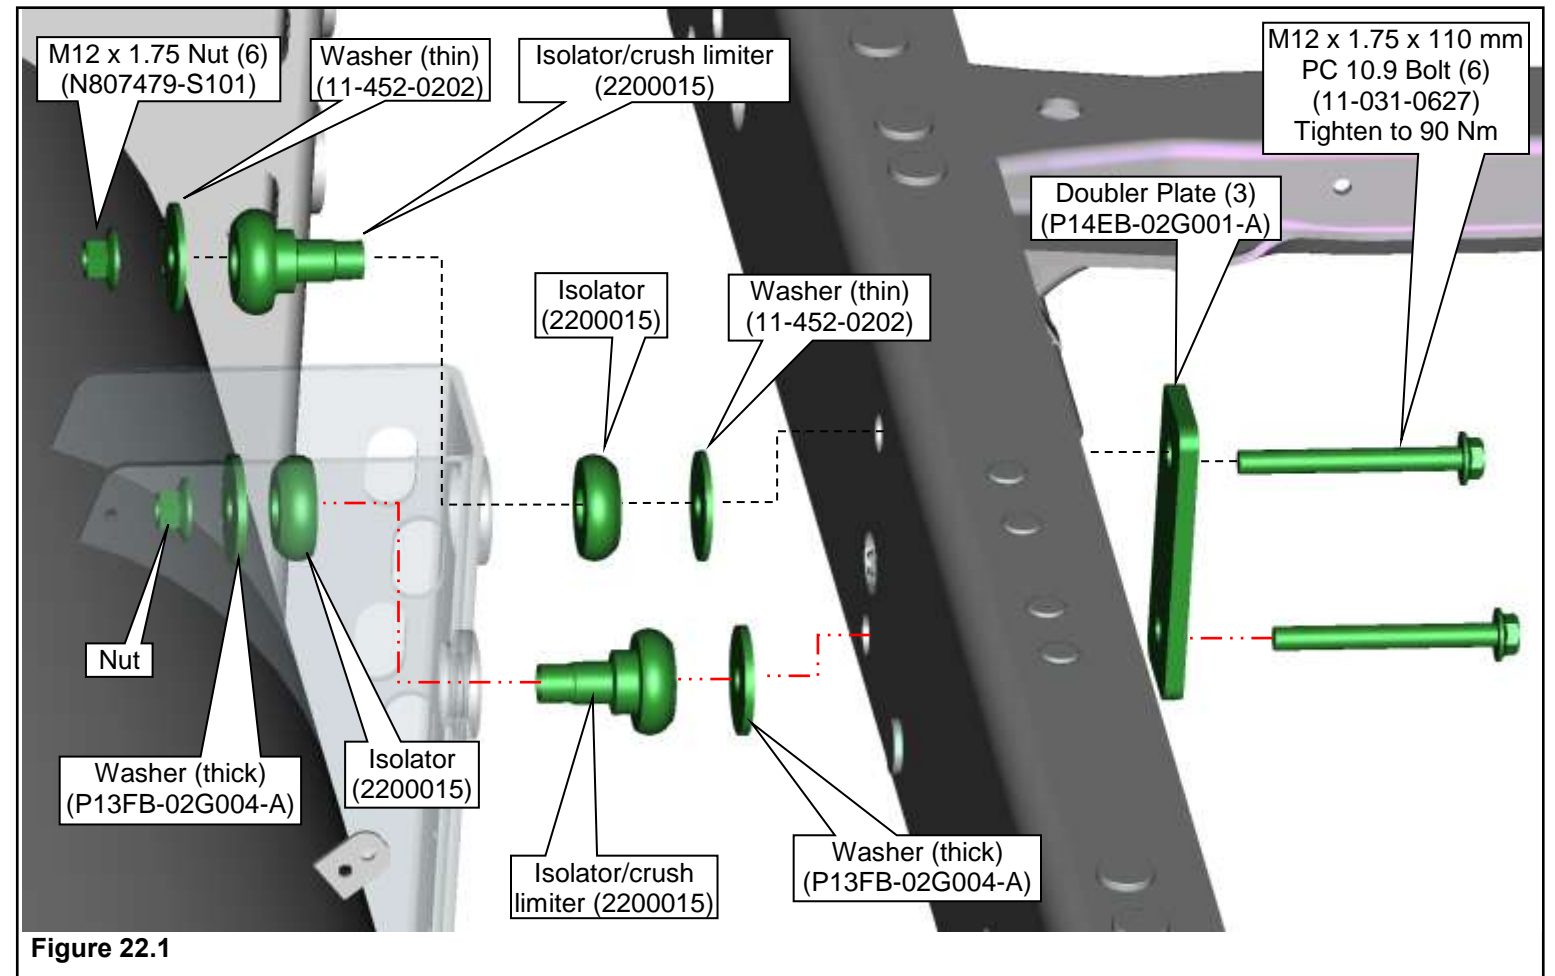
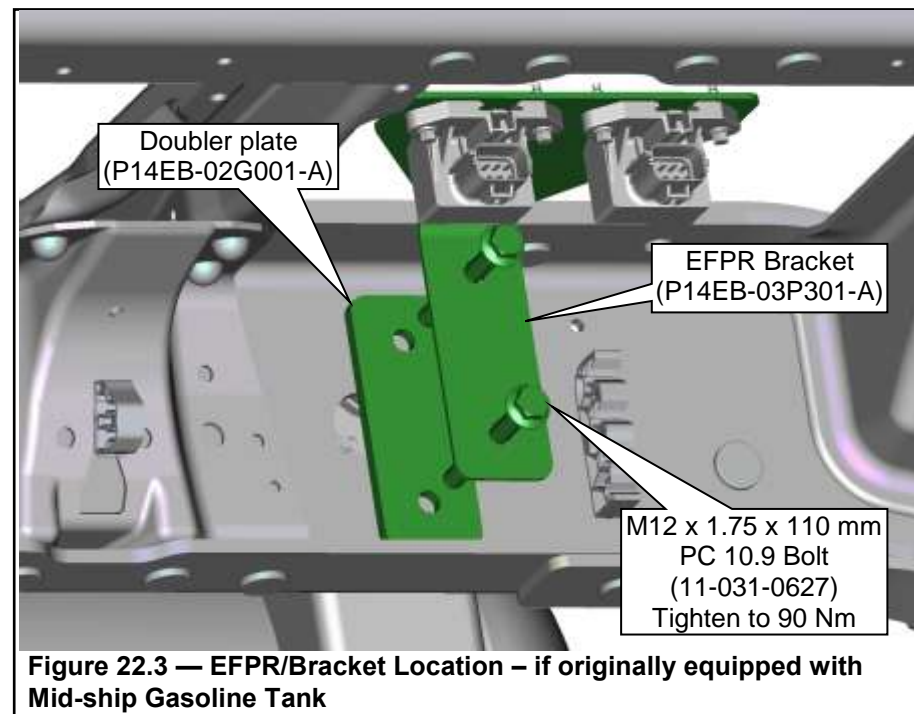

Figure 22.1
Figure 22.3 — EFPR/Bracket Location – if originally equipped with Mid-ship Gasoline Tank
1. Assemble the isolators and crush limiters onto the tank mounting brackets. **Figure 22.1**.
4. Place the three doubler plates in position against the inside of the frame rail. **Figure 22.1**. If originally equipped with mid-ship gasoline tank, position the EFPR and bracket assembly against the doubler plate at the forward most tank mounting position. **Figure 22.3**. Install the M12 x 1.75 x 110 mm bolts with washers through the holes in the doubler plate. Slip the inner bracket washers into position between the frame and mounting isolator. Continue installing the bolts through the holes in the tank mounting brackets. **Figure 22.1**.
5. Install the six M12 x 1.75 mounting nuts, one each onto the M12 bolts. Thread the nuts onto the bolts hand tight. Tighten the fasteners to specifications. **Figure 22.1**.